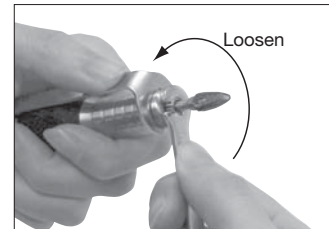

Fig. 10
*Occasionally, when using a large diameter bur at high torque, the chuck may gradually tighten making it difficult to remove. In this case align the spindle's wrench flats in the nose's slits and use the provided L wrench to hold the spindle. Open the Bur Lock Ring and turn the chuck counterclockwise with the provided chuck wrench to remove the chuck. (Fig. 10)